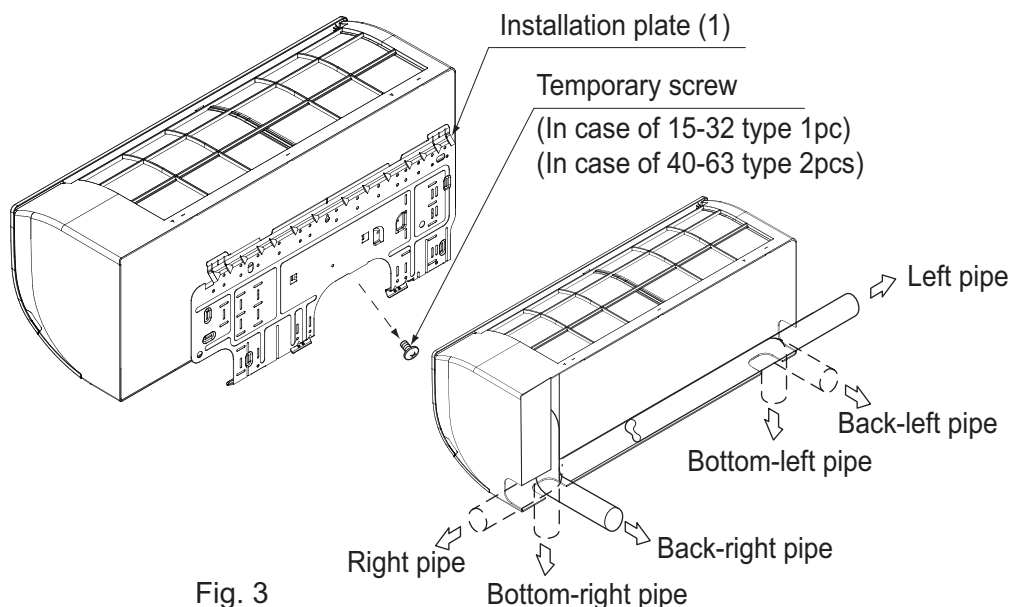

Fig. 3
(1) Open the piping through-hole.
- The refrigerant pipe and drain pipe can be passed out in one of 6 directions: left, bottom-left, back-left, right, bottom-right, and back-right. (Refer to Fig. 3)
(2) Remove the installation plate (1) from the unit and attach to the wall.
(Refer to Fig. 3)